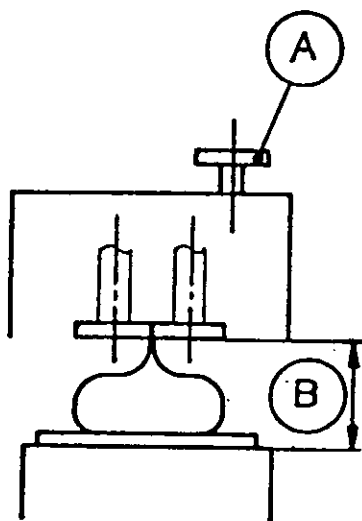

Fig. 5
The height (B) is adjusted by means of the hand wheel (A), which is placed on top of the sealing section, see Fig 5.
- Check the bag length by measuring the distance from front edge to front edge of the photo marks, Fig. 5.
- Adjust the bag length by activating the hand wheel, Fig. 5, for shorter/longer bag.